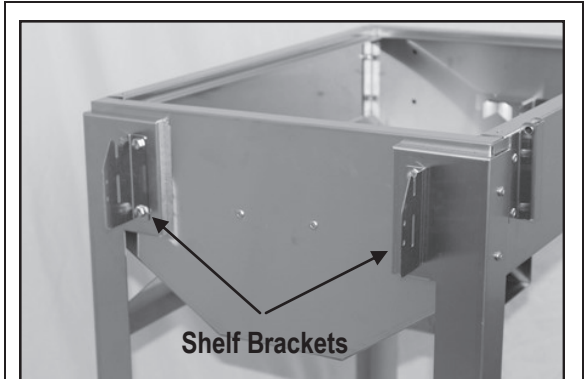

Fig. 10
1. Attach brackets to grill using 1/4-20 x 3/4" Hex Head Bolts and 1/4-20 Kev Nuts to each side of your grill as shown in (Fig. 10) Use (2) bolts and kev nuts per bracket.